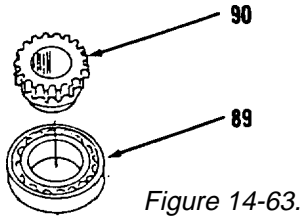

Figure 14-63.
- 15. Using suitable press, press bearing (89) on gear (90, Figure 14-63).